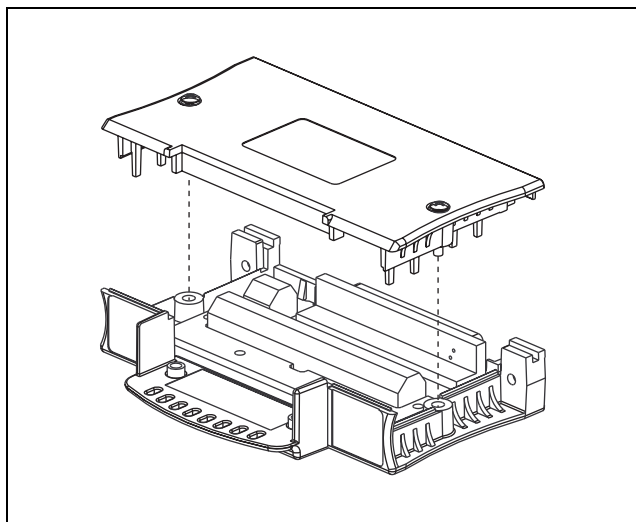

Figure 5. Removing the Top Cover from the cFP-CB-x
1. Loosen the top cover screws and remove the cover. Refer to Figure 5.